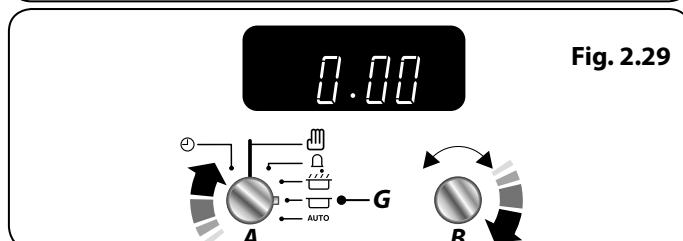

Fig. 2.29
2. Turn the **Timer (A)** knob to the **Stop Time (G)** setting (**Fig. 2.29**). The display will show the current time of day plus the 'cook time' you just set.